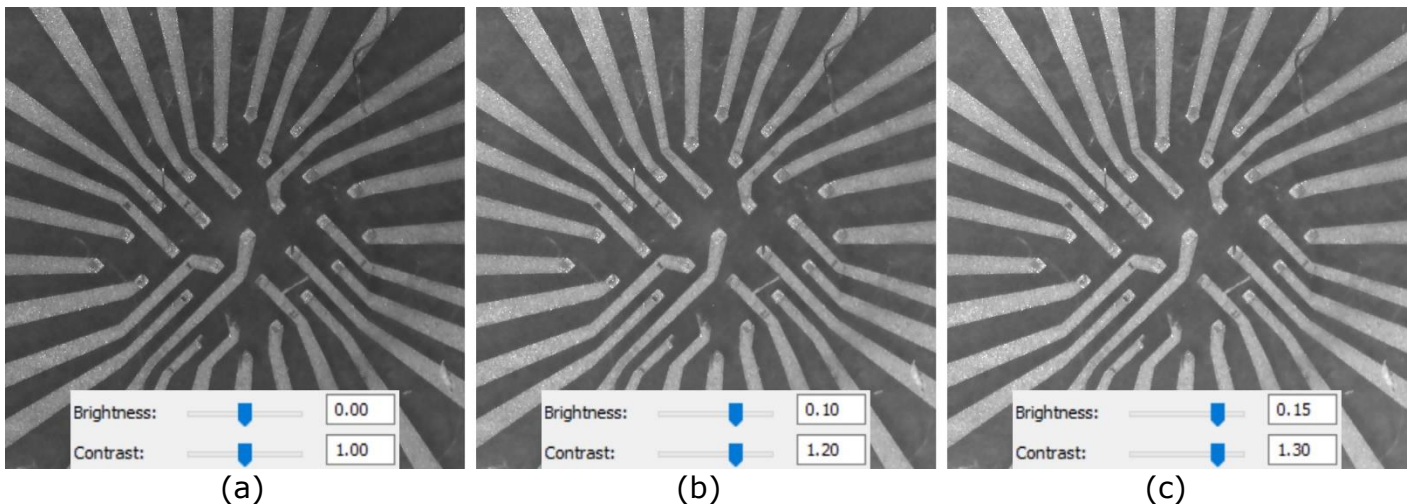

Fig. 84: Camera images as brightness and contrast are increased from (a) 0.00 and 1.00 to (b) 0.10 and 1.20, and (c) 0.15 and 1.30, respectively.
- 23) Increase **brightness** and **contrast** to improve the image quality. We recommend increasing both parameters concurrently relative to each other: for every increase of 0.01 units of brightness, increase 0.02 units of contrast as shown in **Fig. 84**.